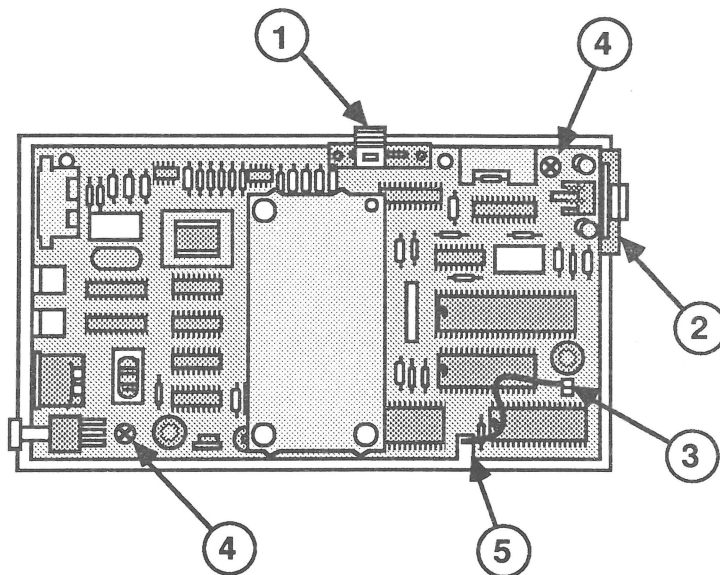

FIGURE 3
3. Lift up on the volume lever to remove it (Figure 3, #1).
4. Lift up on the light pipe assembly to remove it (Figure 3, #2).
5. Disconnect the speaker cable (Figure 3, #3).
6. Remove the two Phillips screws (Figure 3, #4).
2. Position the main logic board above the case and route the speaker cable through the slot on the left side of the board (Figure 3, #5). Lower the main logic board into the case.